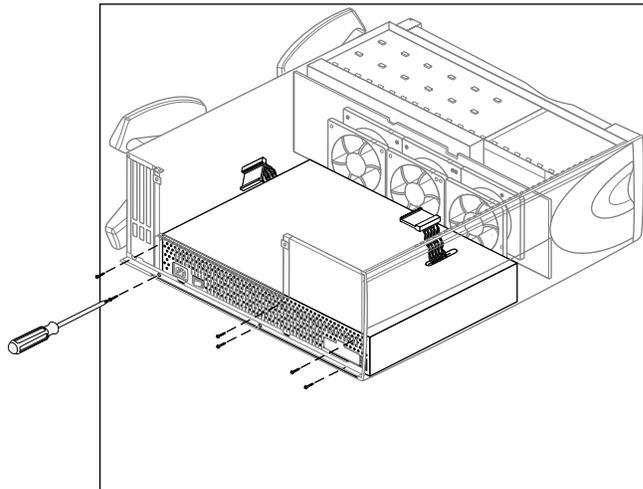

Figure 5-16 Replacing the Origin200 Server Power Supply Screws
4. Install the screws at the rear of the system, as shown in Figure 5-16. Six screws secure the power supply to the chassis.